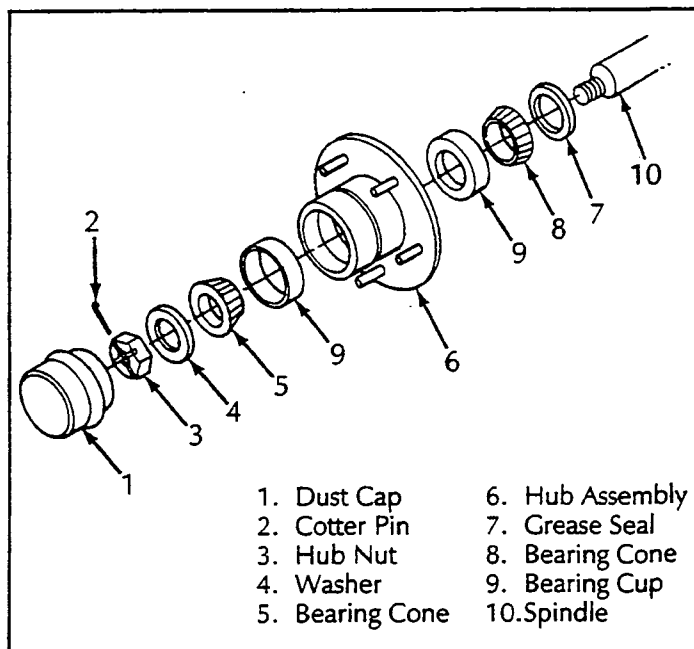

Figure 4-12: Wheel Bearings
1. Referring to Figure 4-12, position the drive motor in the axle and secure with capscrews and locknuts.
4.10 Wheel Bearings (Figure 4-12)